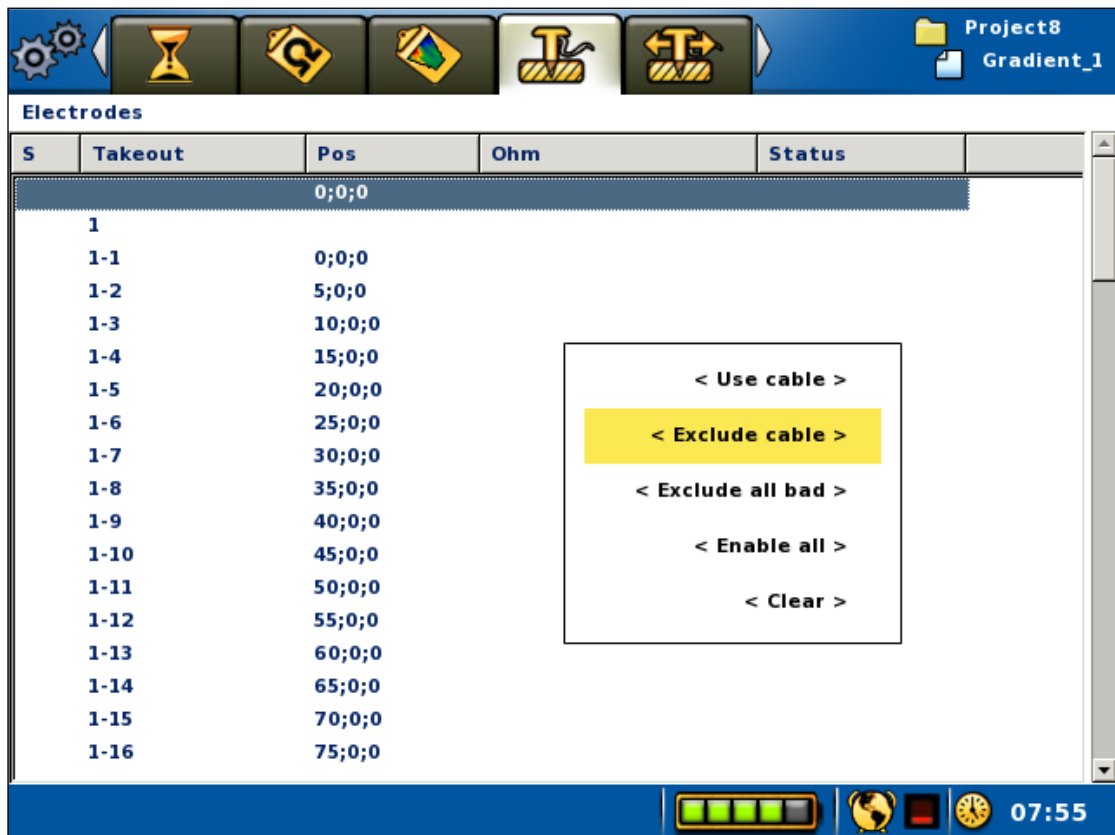

Figure 44 Exclude cable pop-up menu
- Highlight the <Exclude cable> *Menu Item* (Figure 44)